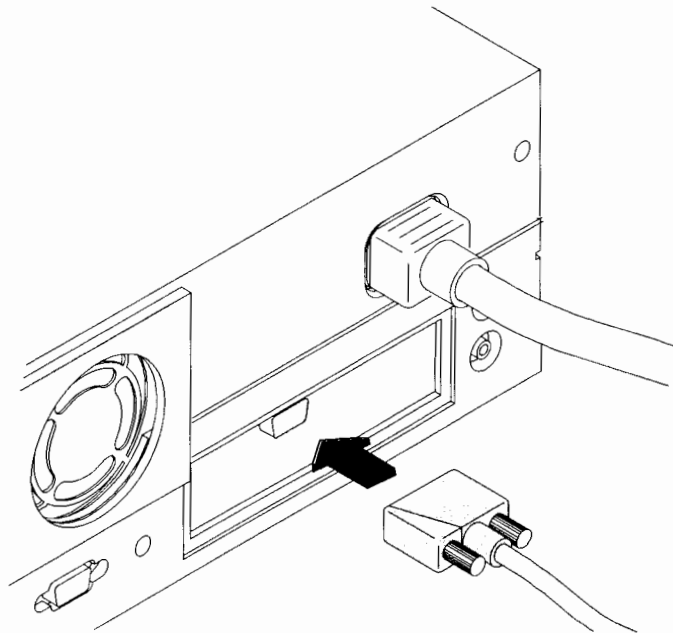

Figure 1-4. CRX and HCRX Graphics Connector
the CRX or HCRX graphics option, connect your monitor or external graphics unit to the optional graphics connector (refer to Figure 1-4). If you are setting up a dual monitor system, connect one monitor to the built-in graphics connector and the other monitor to the optional graphics connector.
- Color graphics card (CRX-24, CRX-24Z, HCRX-8, HCRX-8Z, HCRX-24, or HCRX-24Z graphics) — This device has a D-sub miniature connector which is connected to the monitor by a cable, as shown in Figure 1-4.
Figure 1-4 shows the location of the CRX and HCRX graphics connector on the system unit's rear panel.